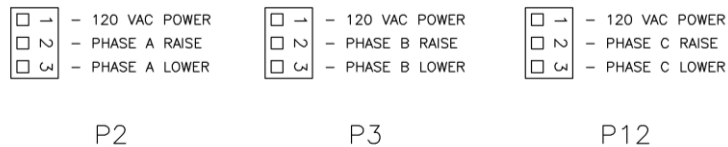

Figure 5
The microcontroller is capable of controlling all STACO's motor driven autotransformers. Connect **120 Volt AC power** to **J2-1** on the microcontroller main printed circuit (PC) board, connect **120 Volt AC neutral** to terminal **C** on the variable motor drive terminal strip, connect **J2-2** on the microcontroller PC main board to terminal **R** on the variable motor drive terminal strip, and connect **J2-3** on the microcontroller main PC board to terminal **L** on the variable motor drive terminal strip (see figure 5).
If the THREE PHASE option is being used, connect **120 Volt AC power** to **J3-1** and **J12-1** on the lower microcontroller lower PC board, connect **120 Volt AC neutral** to terminal **C** on the phase B and C variable motor drive terminal strips, connect **J3-2** on the microcontroller lower PC board to terminal **R** on the phase B variable motor drive terminal strip, connect **J3-3** on the microcontroller lower PC board to terminal **L** on the phase B variable motor drive terminal strip, connect **J12-2** on the microcontroller lower PC board to terminal **R** on the phase C variable motor drive terminal strip, and connect **J12-3** on the microcontroller lower PC board to terminal **L** on the phase C variable motor drive terminal strip (see figure 5).